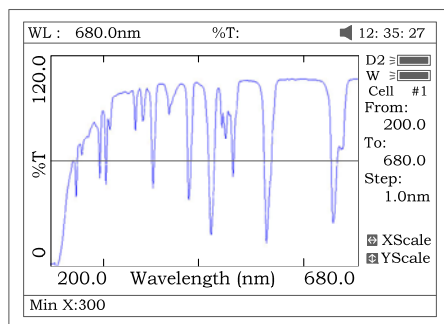
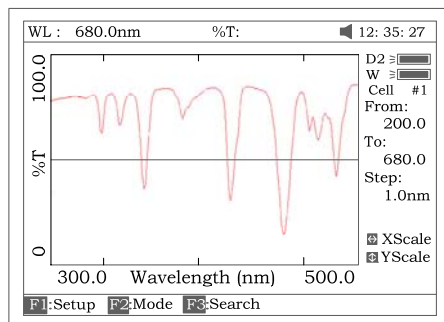

Fig47
Fig 48
- If you want to change the scale, press [**<**] or [**>**] to change “X” scale (Fig 47), input upper limit and lower limit by pressing the numeric keypad. To change “y” scale press [**^**] or [**v**]. After these inputs the instrument will redraw the curve (Fig 48).
Note: Load/Save requires the first scan display page Fig 48.